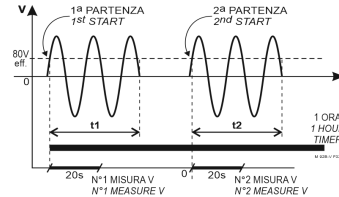

FIG. 2
**PROG. 10:** COUNTING of the STARTS that occur in one HOUR  $\pm 10\%$  starting from the first START. The STARTS correspond to "rising edges" of the voltage V (see Fig. 2). **The presence of the voltage is detected when  $V > 80V_{eff}$ .**